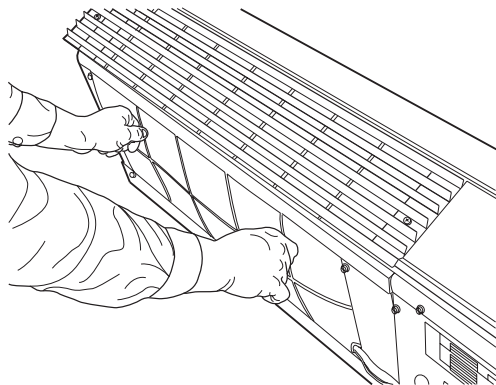

FIGURE 22 — REMOVING FILTER
2. To remove the indoor air filter, gently grasp the 2 filter tabs, push down, and pull out. See Figure 22.